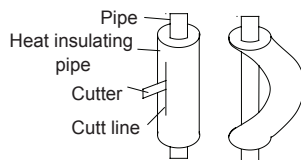

Fig. 15
- (2). Do not bend the pipes in an angle more than 90°.
- (3). When pipes are repeatedly bent or stretched, the material will harden, making it difficult to bend or stretch them any more. Do not bend or stretch the pipes more than three times.
- (4). When bending the pipe, do not bend it as is. The pipe will be collapsed. In this case, cut the heat insulating pipe with a sharp cutter as shown in Fig. 15, and bend it after exposing the pipe. After bending the pipe as you want, be sure to put the heat insulating pipe back on the pipe, and secure it with tape.
Hold the torque wrench at its grip, keeping it in the right angle with the pipe as shown in Fig. 15, in order to tighten the flare nut correctly.